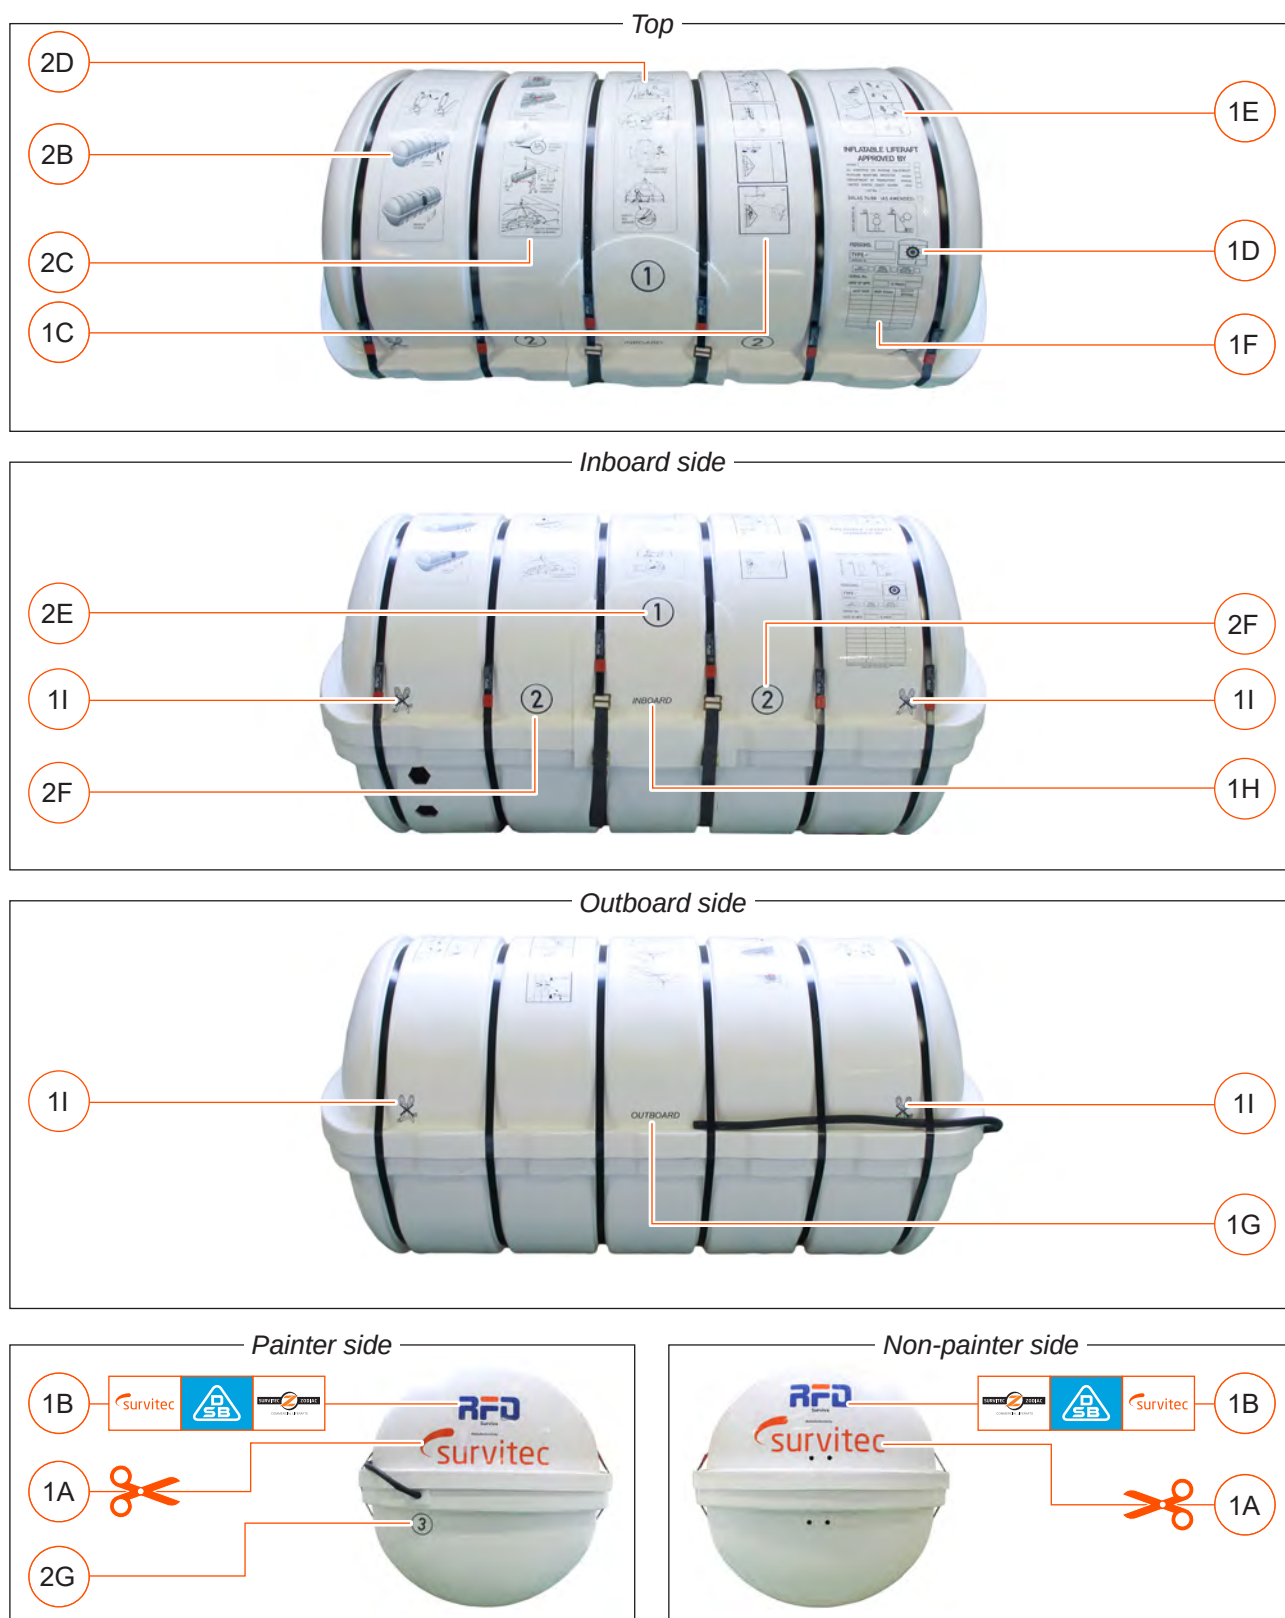

Figure 18
- Mk 14 size 14. Refer to **Figure 18** for label positions.